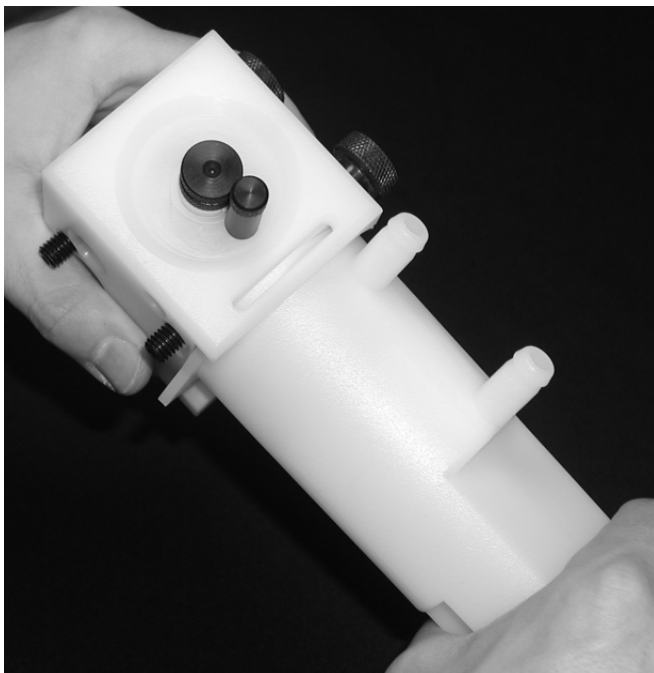

Figure 3. Lock the trap into position
- 3 Push the trap home and then twist it 1/4 turn clockwise to lock it into position. Refer to Figure 3.